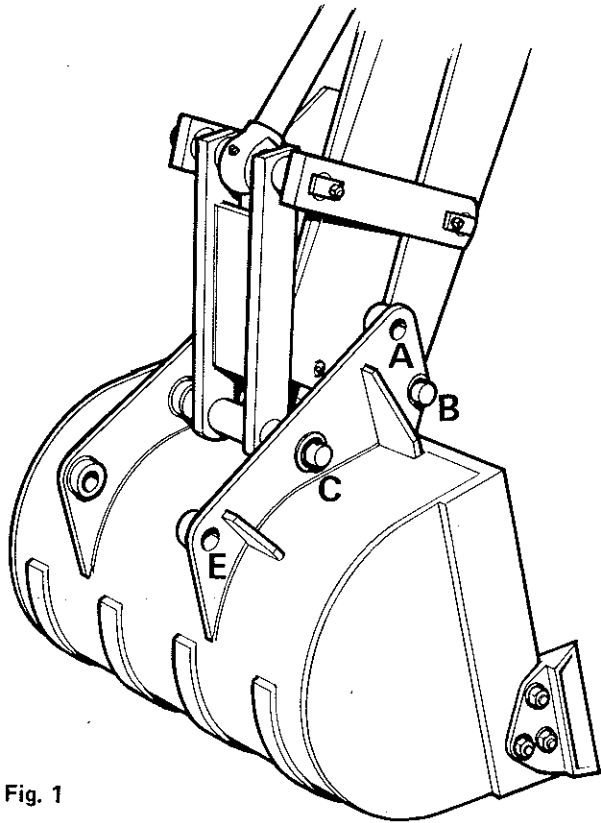

Fig. 1
2. The linkage (fig. 1) consists of two tipping levers, which pivot at one end, on either side of the dipper arm, at a point just above the bucket pivot point and a one-piece steel tipping link. At the other end, the tipping levers connect to the outsides of the upper end of the tipping link arms. The eye of the bucket ram piston rod is sited between the arms of the tipping link. The tipping levers, the tipping link and the piston rod are all mounted on the same pin to form a floating pivot point. The lower end of the tipping link is connected to the bucket, and movement of the piston rod is therefore transmitted to the bucket.
4. Fig. 1 also illustrates alternative positions for the tipping lever, the tipping link and the bucket pivot points, to give the following requirements: